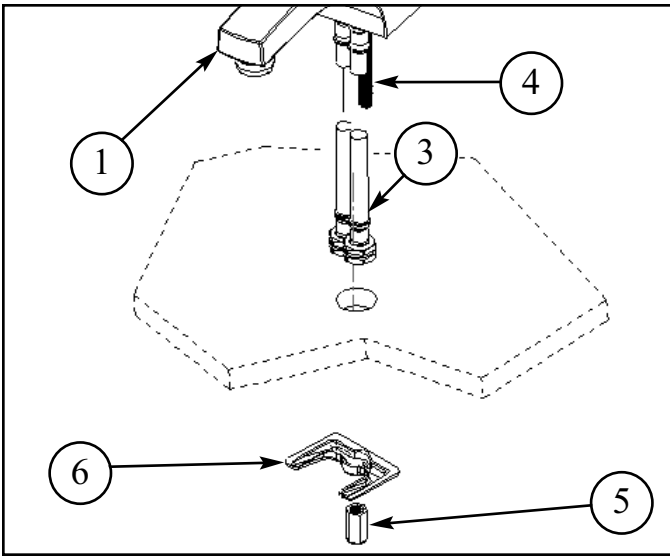

Figure 1
1. Insert HOSES (3), one at a time, and MOUNTING STUD (4) through sink hole, (apply putty or silicone to underside of SPOUT (1). Align SPOUT (1) and secure into place with mounting BRACKET (6) and NUT (5). See Figure 1.